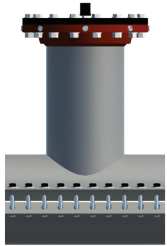

Figure C-1
C.1) Inspect the valve body to ensure no damage has occurred during shipment or storage (see Figure C-1).